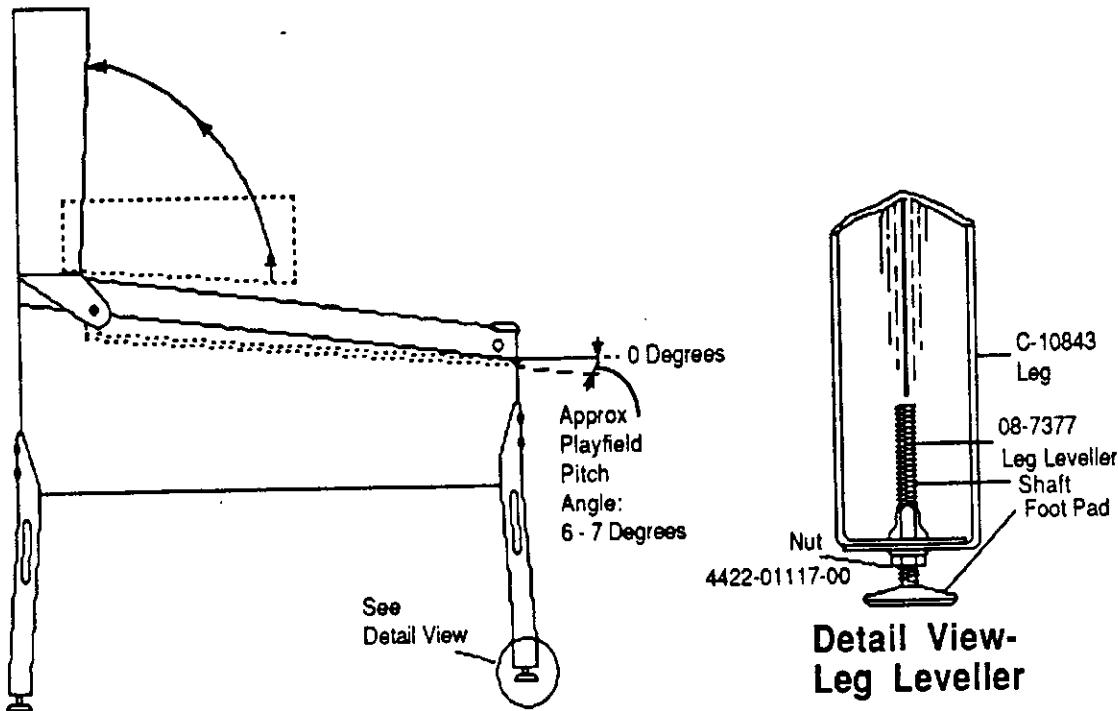

Figure 3. Pinball Assembly, Playfield Pitch Angle, and Leg Leveller Details.
3. Attach the front legs (after installing leg levellers), using leg bolts. See Figure 3 for details.
6. Adjust the leg levellers for proper playfield level (side-to-side) *and* playfield pitch angle (incline) of approximately 6 degrees. (Again, it is recommended that these measurements be made ON the playfield, not the cabinet nor the playfield cover glass.) Tighten the nut on each leg leveller shaft to maintain this setting, as shown in Figure 3.